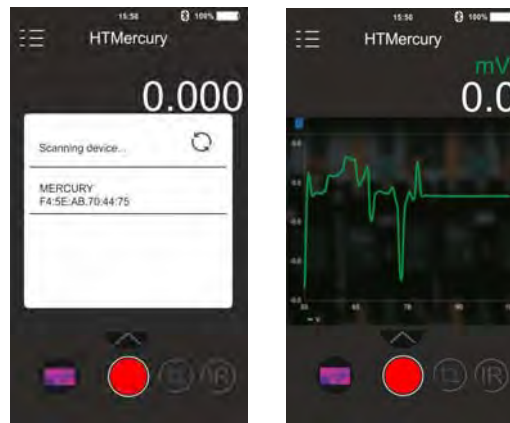
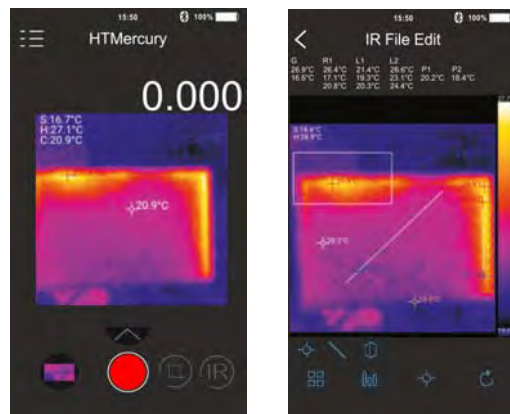

Fig. 44: Communication with the APP HTMercury
Fig. 45: Applications of the APP HTMercury
4. Search for the instrument in the APP (see Fig. 44 – left side).
5. The instrument's input signal is displayed in real time on the mobile device (see Fig. 44 – right side) and it is possible to save screenshots and to activate/deactivate recordings from the internal menus of the APP. it is also possible to save screenshots of thermographic images and insert objects for advanced analyses (see Fig. 45). See the Help on line of APP for details.